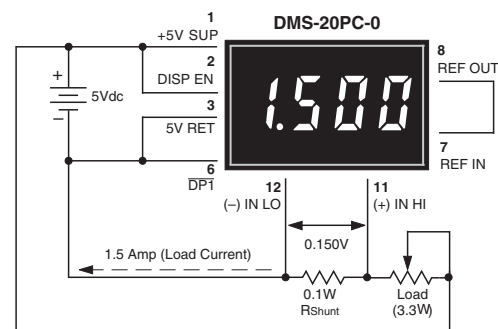

Figure 9. Basic DC Ammeter Circuit
- 7. Digital Ammeter:** Digital ammeters are finding ever-increasing usage because analog-style ammeters (moving-vane types) now cost roughly the same as their digital counterparts. Additionally, analog ammeters are not nearly as rugged as modern digital panel voltmeters. Figure 9 illustrates a typical ammeter application. The circuit uses a $\pm 200mV$ input meter — the preferred range for most ammeters — to measure the voltage developed across a 0.1Ω current shunt. The circuit shown represents a basic ammeter connection diagram. Click here to view a detailed application note describing digital dc ammeters.